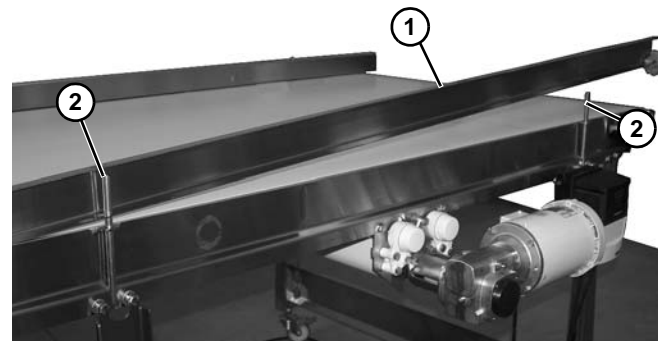

Figure 36
3. Install guide (Figure 36, item 1) onto the guide posts (Figure 36, item 2).